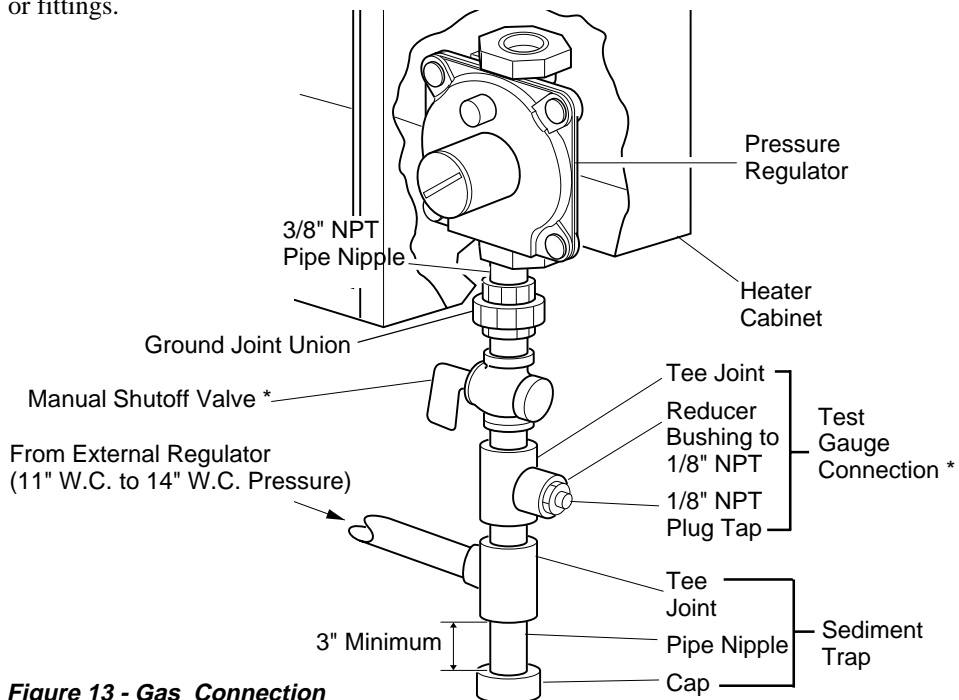

Figure 13 - Gas Connection
- test gauge connection \* (see Figure 13, page 8)
Installation must include a manual shutoff valve, ground joint union, and plugged 1/8" NPT tap. Locate NPT tap within reach for test gauge hook up. NPT tap must be upstream from heater (see Figure 13).
Install sediment trap in supply line as shown in Figure 13. Locate sediment trap where it is within reach for cleaning. Locate sediment trap where trapped matter is not likely to freeze. A sediment trap traps moisture and contaminants. This keeps them from going into heater controls. If sediment trap is not installed or is installed wrong, heater may not run properly.